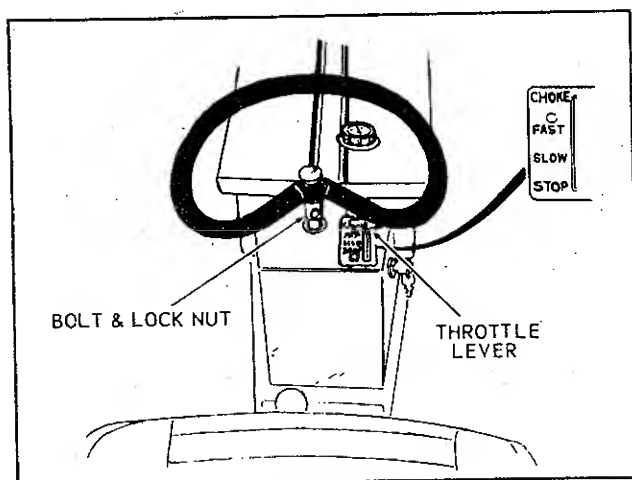

Figure 1
This tractor is shipped completely assembled except for the steering wheel and seat cover assembly. Position the wheel on the steering post as shown in Figure 1 and secure with the 5/16" screw and lock nut provided. Attach the seat cover to the seat pan assembly.
3. Move the throttle lever Figure 1 to the CHOKE position.